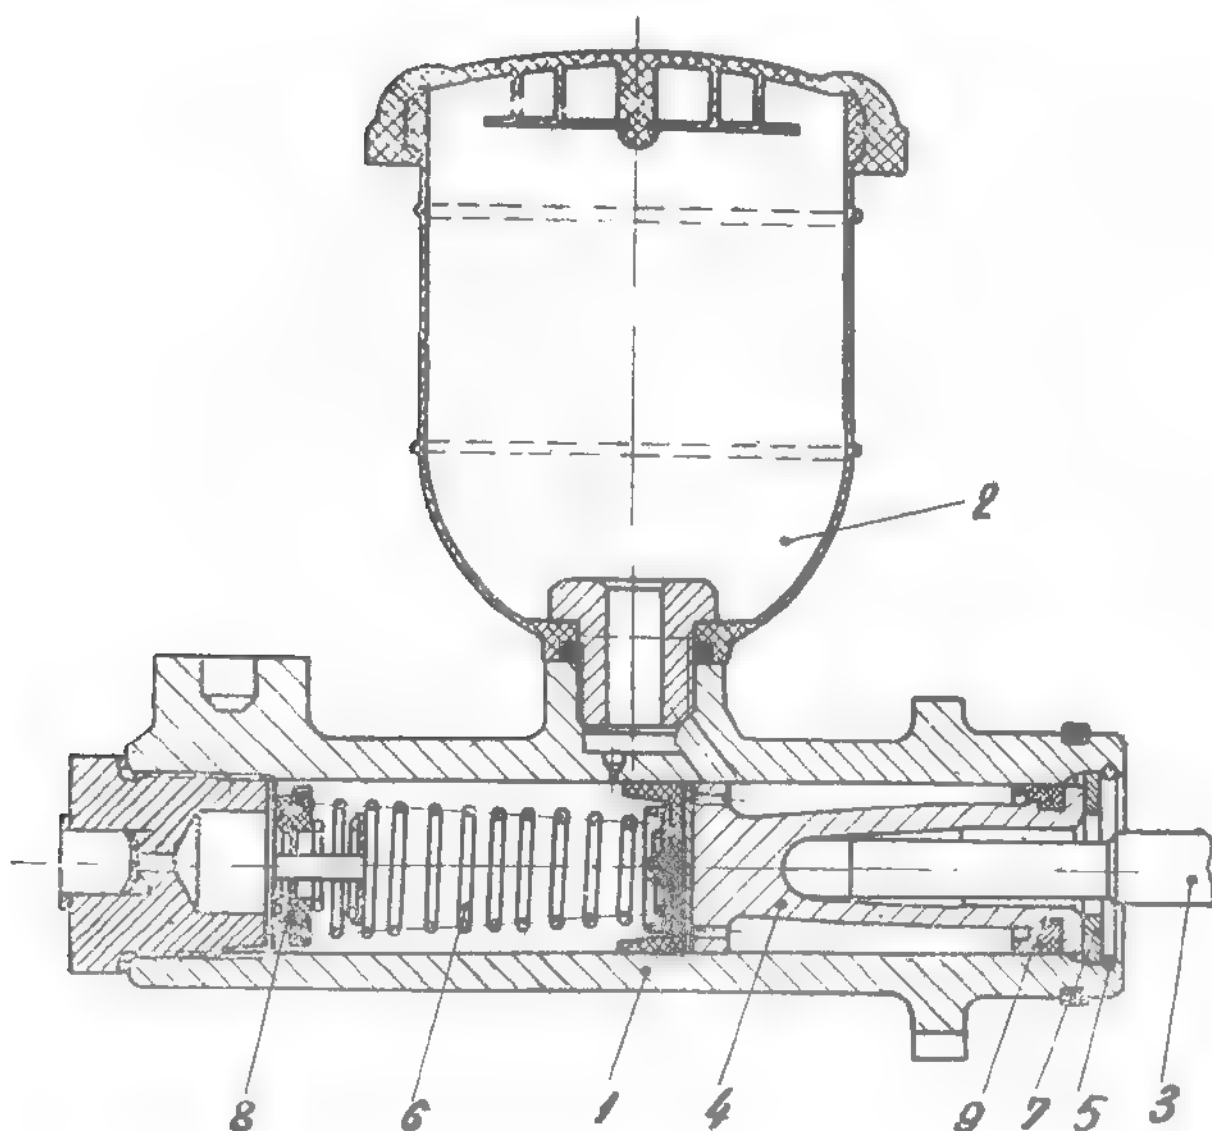

Fig.2.43. BRAKE MASTER CYLINDER
OP. 2.1.35.05.0 CHANGING PISTON CUPS OF BRAKE & CLUTCH MASTER CYLINDER (see fig.2.43)
- Disconnect master cylinder from the brake control pedal by loosening the counter nut and then by unscrewing completely the piston pushing rod (3) (see fig.2.43).